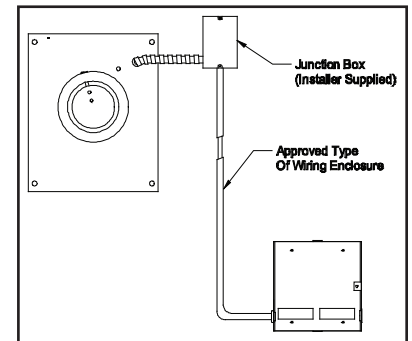
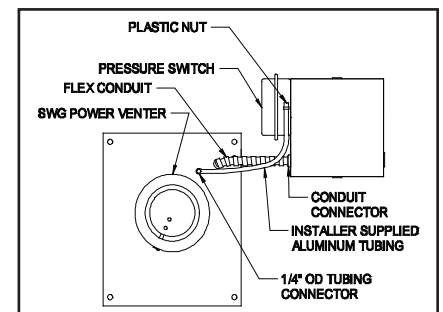

Figure 2
Figure 3
2. Fasten the flexible conduit from the SWG Venter into the conduit connector. Mount the CK-92FVP control box onto a non-heated vertical surface of the appliance or nearby wall or floor joist through the four dimpled locations on the base of the box. NOTE: The mounted pressure switch diaphragm must be mounted with a vertical orientation; see label on pressure switch. (See Figure 3) If required, run additional wiring as in figure 2 and connect to CK-92FVP control box, if required, using the supplied flexible conduit connector and approved connectors and anti-short bushings.
1. Attach the 1/4" tubing connector to the pressure tube on the SWG Venter. (See Figure 3)